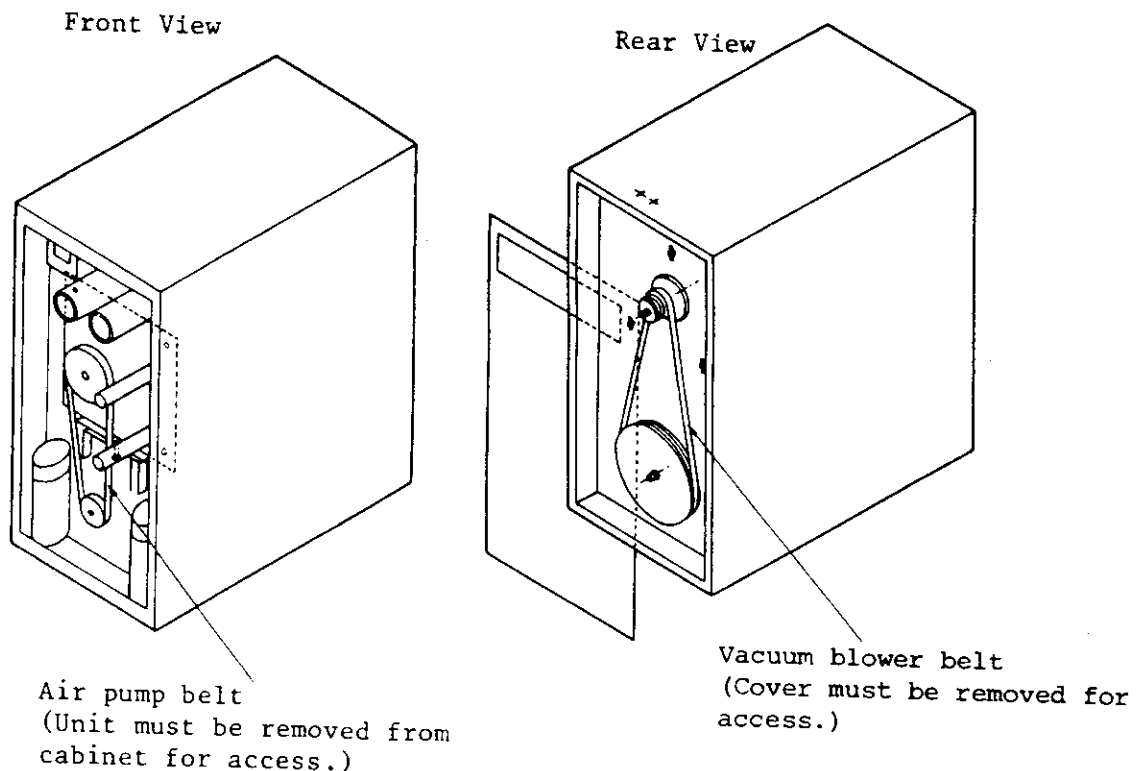

Figure L.44 Air supply unit belts
- (1) Remove the cover plate to gain access to the belts, shown in Figure L.44. Refer to K0190 and K0200 for additional belt installation data.
- (2) Loosen the upper pulley and remove the old belt.